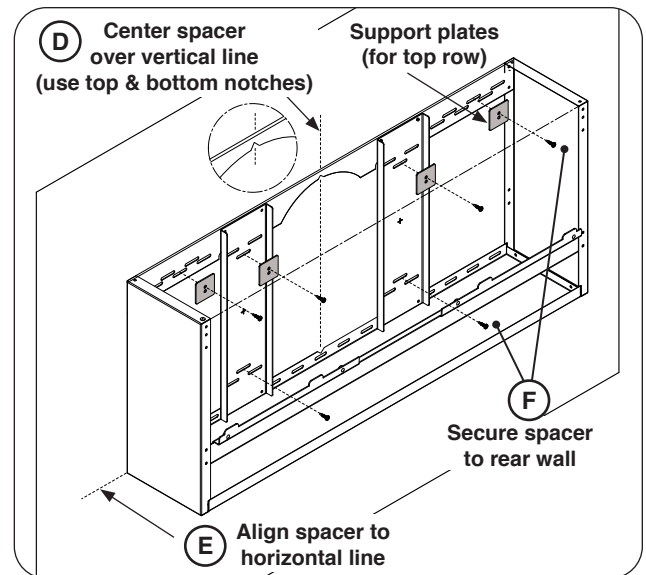

Fig. 13-1 Install Fire Magic spacer (36" shown)
- Carefully place and hold the spacer over the two marked lines. Center the spacer to the vertical line (using the notches), and align the bottom of the spacer to the horizontal line. See Fig. 13-1, D-E.
- Using appropriate mounting hardware for the rear wall construction, secure the spacer into the rear wall (see Fig. 13-1, F).